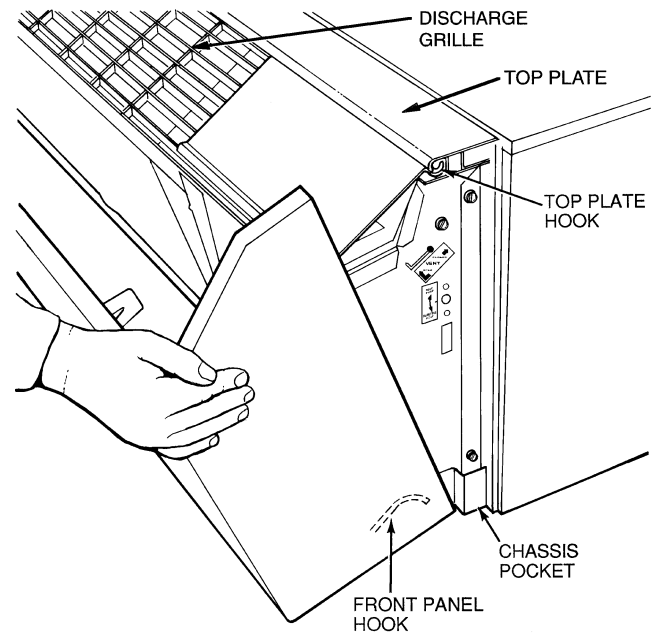

Fig. 1 — Removing Front Panel
1. Remove the plastic front panel by grasping it firmly near the top of both sides, lifting the panel slightly, and rotating the front panel hooks out of their pockets in the chassis basepan. See Fig. 1.